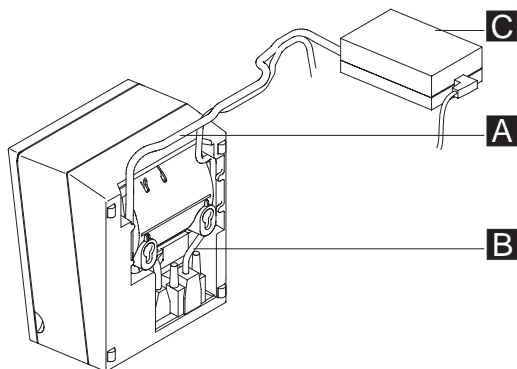

Figure 77. Attaching and routing the cables to the printer..
- a. Install the printer cables and route the cables as shown in Figure 77 on page 113.
- Plug into a power supply **C** in Figure 77. or